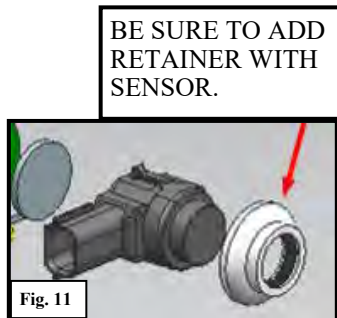

Fig. 11
17. Locate the driver and passenger cutting templates (22-23). Starting on either side, along the template to the top corner of the valence. See **Figure 11**. Tape the template to the valence.